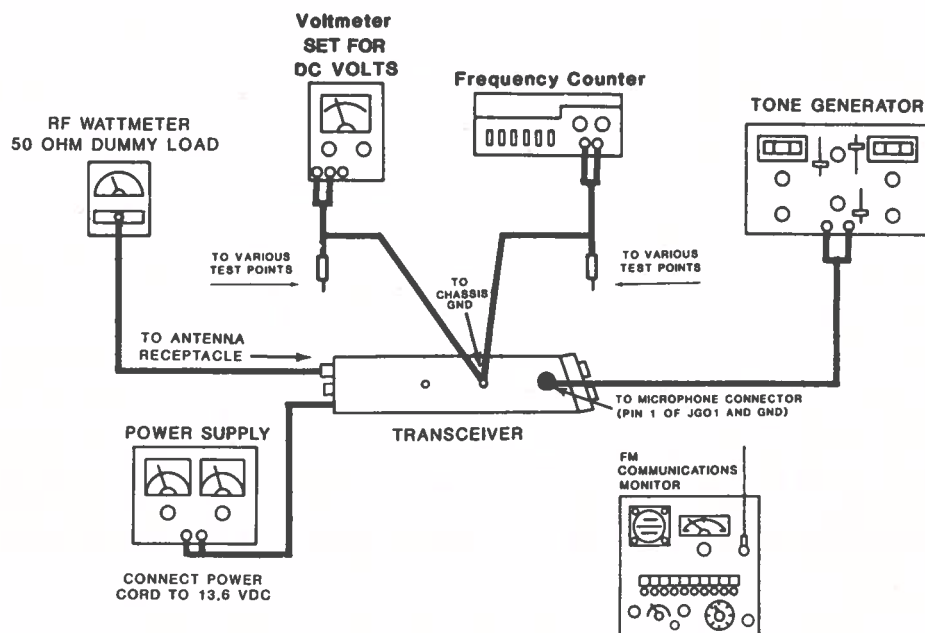

Figure 8. TX/PLL Test Setup
The GX3000U alignment points are shown in Figure 8. After connecting the test equipment, ensure that the supply voltage is 13.6 V.
Connect the test equipment as illustrated in Figure 8.
1. Connect the test equipment as illustrated in Figure 8.